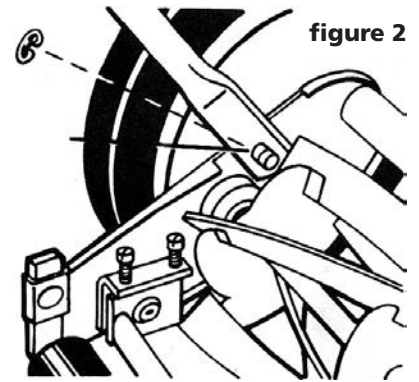

figure 2
**Attaching the handle to the mower.** As you follow the instructions below, refer to figure 2 for more information.